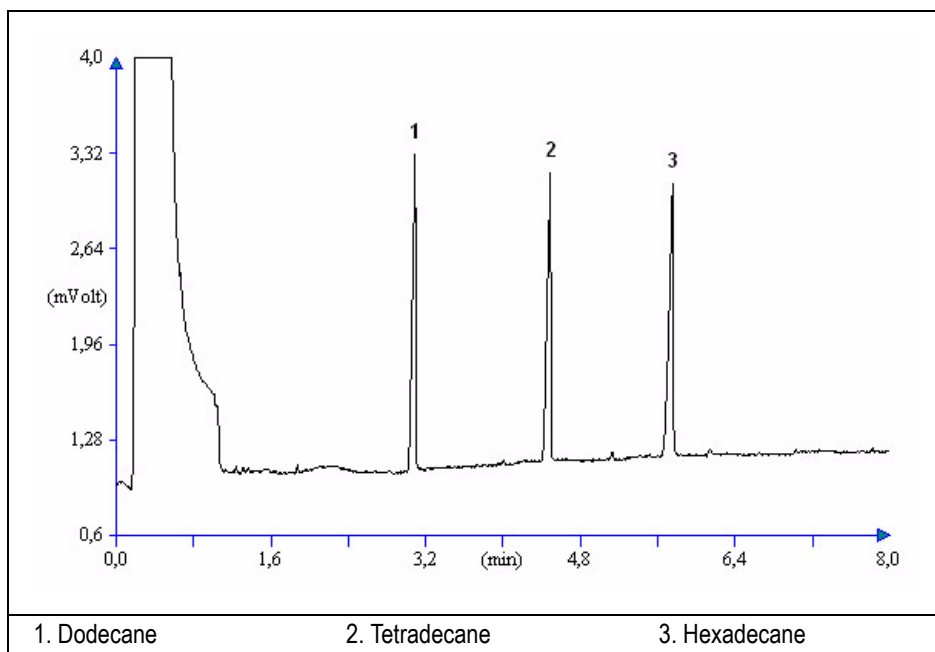

Figure 25-1. TCD-Splitless Injection
14. Inject the test mixture and press **START** on the GC to begin the checkout run. The resulting chromatogram should look like the one shown in *Figure 25.1*.